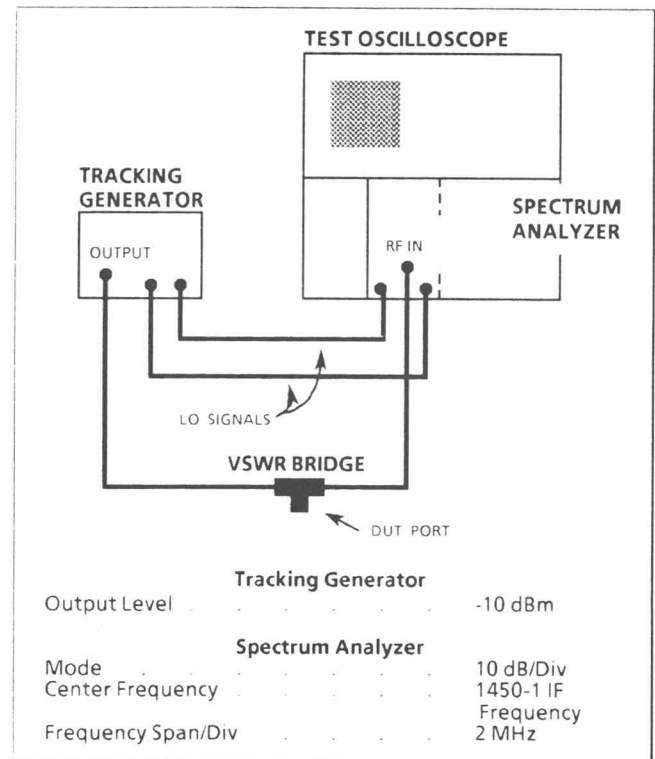

Fig. 4-36. Setup for checking high frequency return loss.
- a. Connect and set the test equipment as shown in Fig. 4-36.